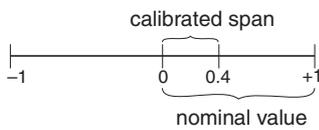

Figure 8.1 Turndown
Adjusting the span (turndown)	TD 10:1 Turndown (TD) = nominal value/calibrated span - Example (see adjacent figure 8.1): Nominal value = 1 bar Set span = 0.4 bar TD = 1:0.4